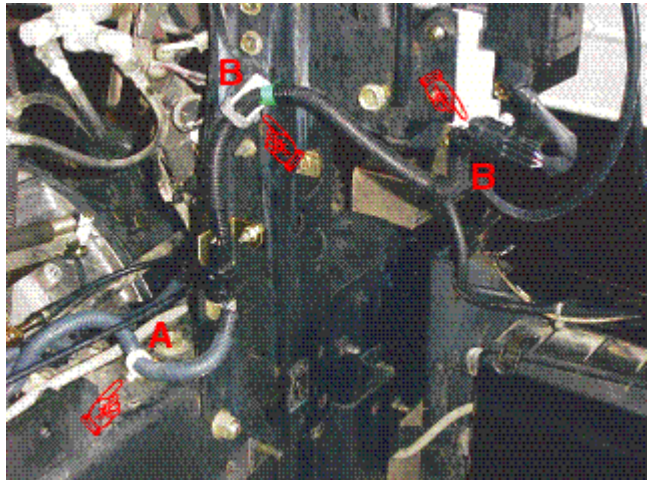

FIGURE 11
11a. On UD1800/UD2000/UD2300, use the harness clip shown as item A in Figure 11.
11b. On UD2600/UD3000, use the two (2) stand-off brackets and the two (2) harness clips provided shown as Item B in Figure 11.